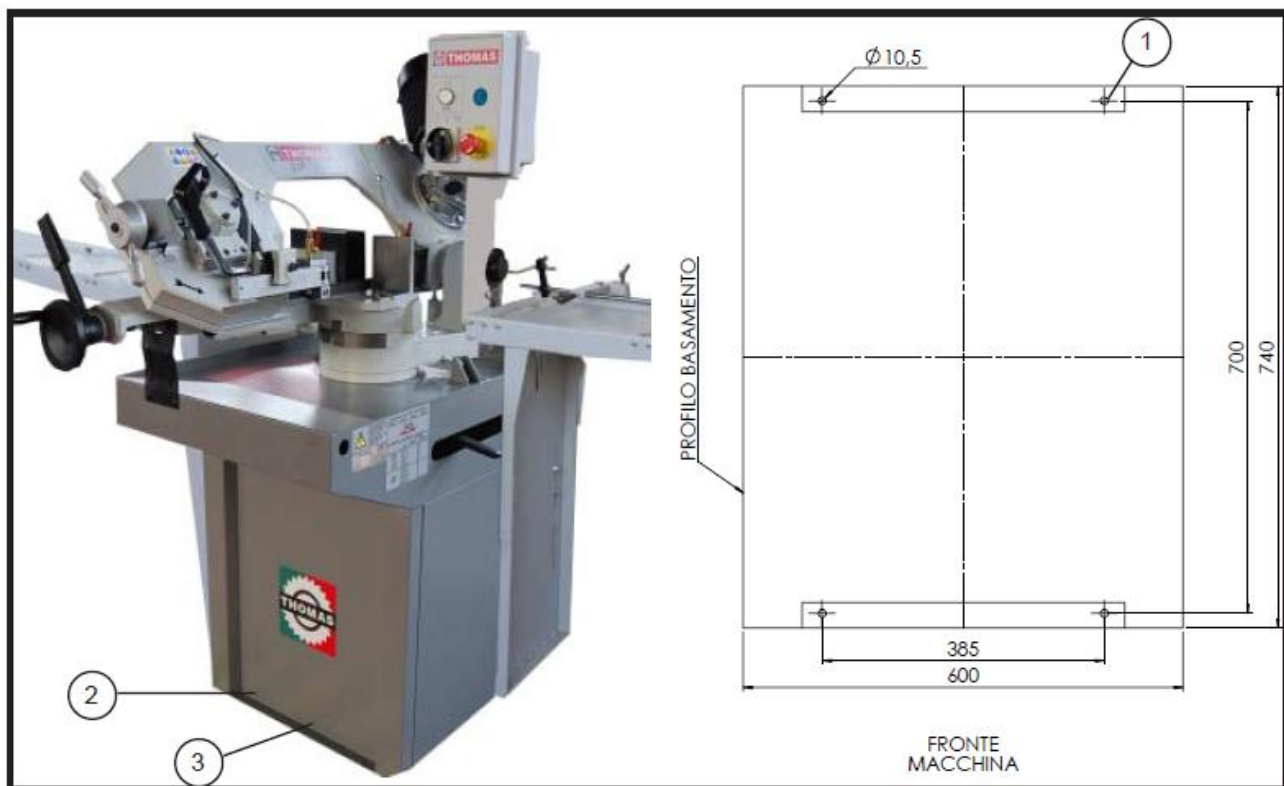

Fig. 1-10
- The customer should prepare the installation place according to the installation drawing (fig. 1-10).
The installation drawing (fig. 1-10) shows the dimensions, the anchorage spots and spot for the electric connection to the mains.
- a) Referring to the drawing (fig. 1-10), provide fastening and guys to be anchored on the floor.
- b) The machine should be set so as the holes on the machine base (1 fig. 1-10) coincide with the guys down to the floor.
- c) Insert the screws (2 fig. 1-10) through the holes on the machine base and tight them partially.
- d) Place a level gauge on the working table of the machine and adjust the base to get a precise balance. Just in case, insert some pieces of metal plates between the base and the floor (3 fig. 1-10).
- e) Once the balance is perfectly set, tight the screws (1 fig. 1-10) so the machine is anchored down to the floor securely.